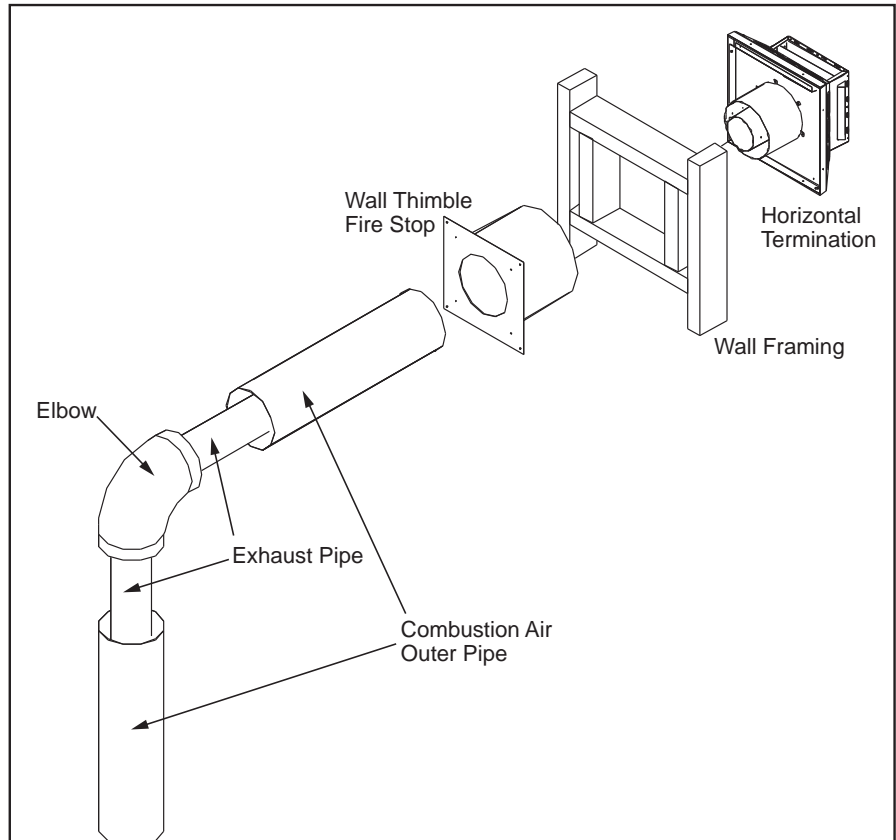

Figure 26. Horizontal Vent Termination
Step 3. With the pipe in the correct position and attached to the fireplace, mark the wall for a **10" (25.4 cm) x 10" (25.4 cm)** square hole (see Figure 26). The center of the hole should match the center line of the horizontal pipe. Cut and frame the hole in the exterior wall where the vent will be terminated. If the wall being penetrated is made of a non-combustible material (i.e. masonry or concrete) a **7" (17.8 cm)** hole is acceptable.
- Step 9.** Slip the storm collar over the pipe, and push it down to the top of the roof flashing as shown in Figure 26. Use the non-hardening sealant around the joint between the pipe and the storm collar.